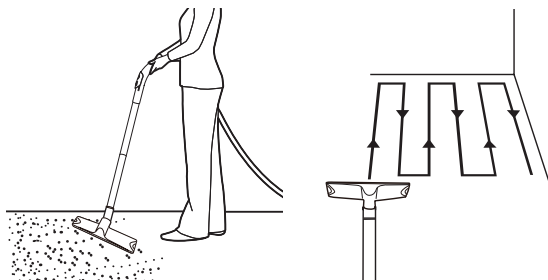

Fig. 21
- > Attach the extension tube(s) (14) onto the hose handle (13a) if required.
- > Move in slight overlapping rows. The most effective pattern is straight lines along one of the sides. This will keep the rows even and ensures that the entire working surface is cleaned up without missing any spots (Fig. 21).